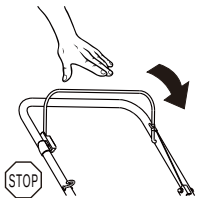

Fig. 7
1. To stop the engine, release the brake control bar to stop the engine and blade. (Fig.7)